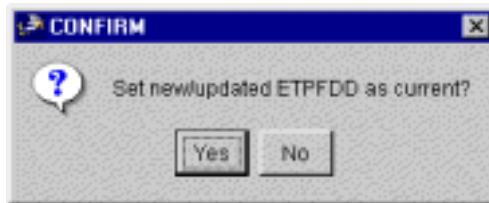

Figure 5.6 CONFIRM Window
14. Click OK. After a moment the CONFIRM window opens (Figure 5.6).